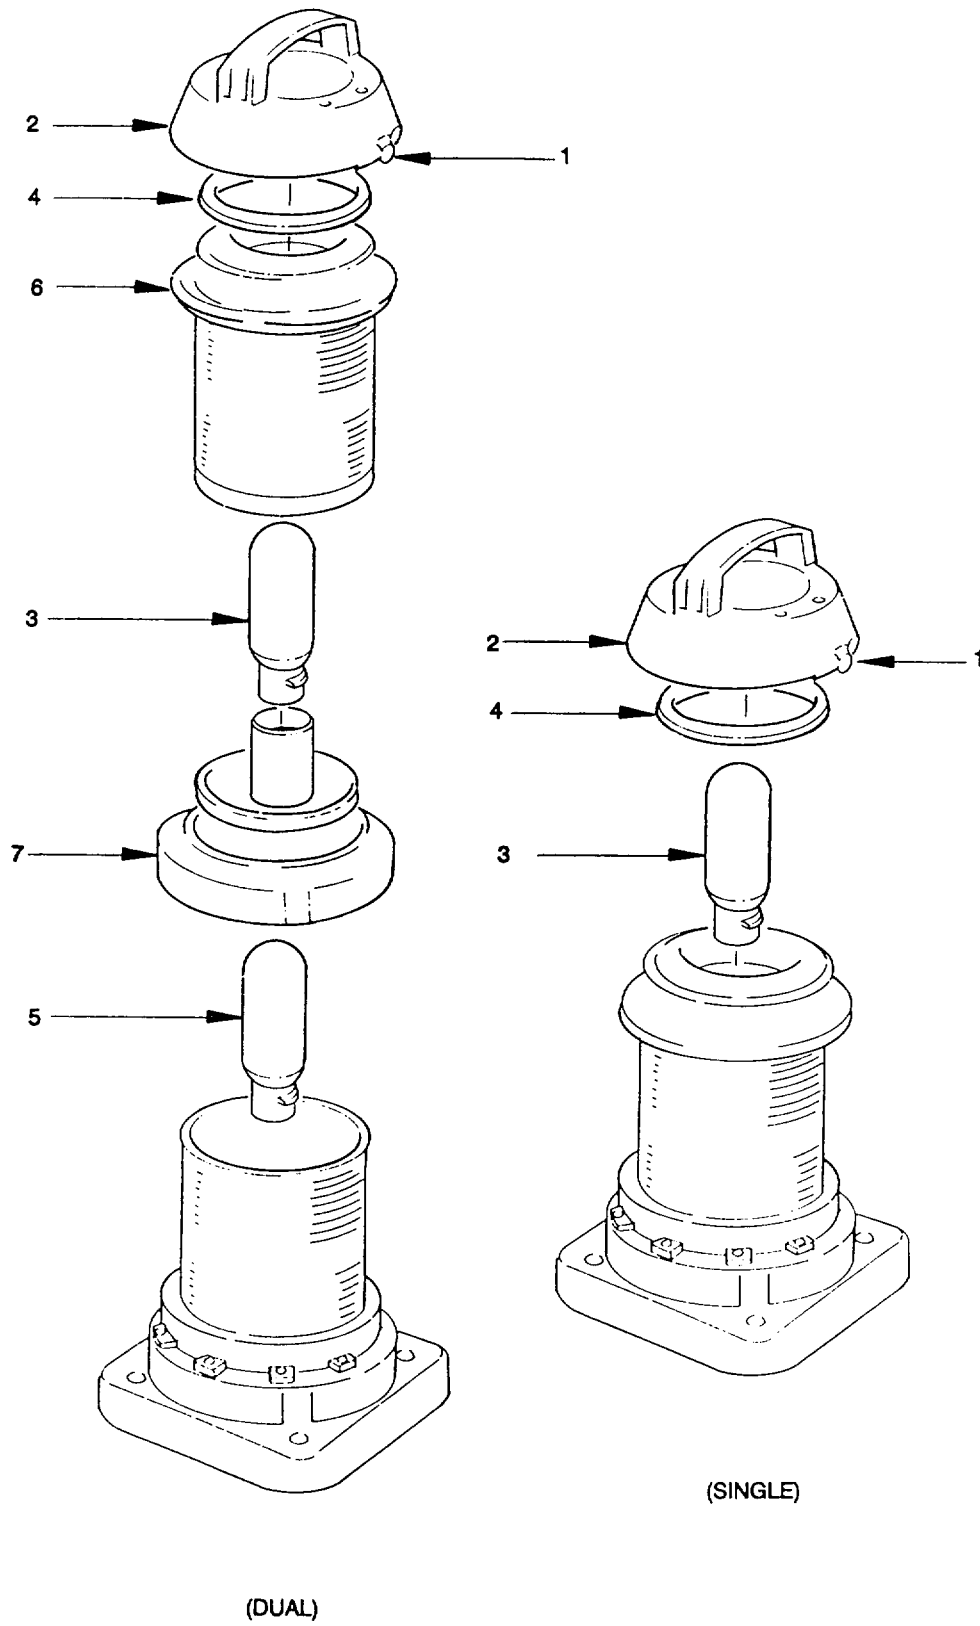
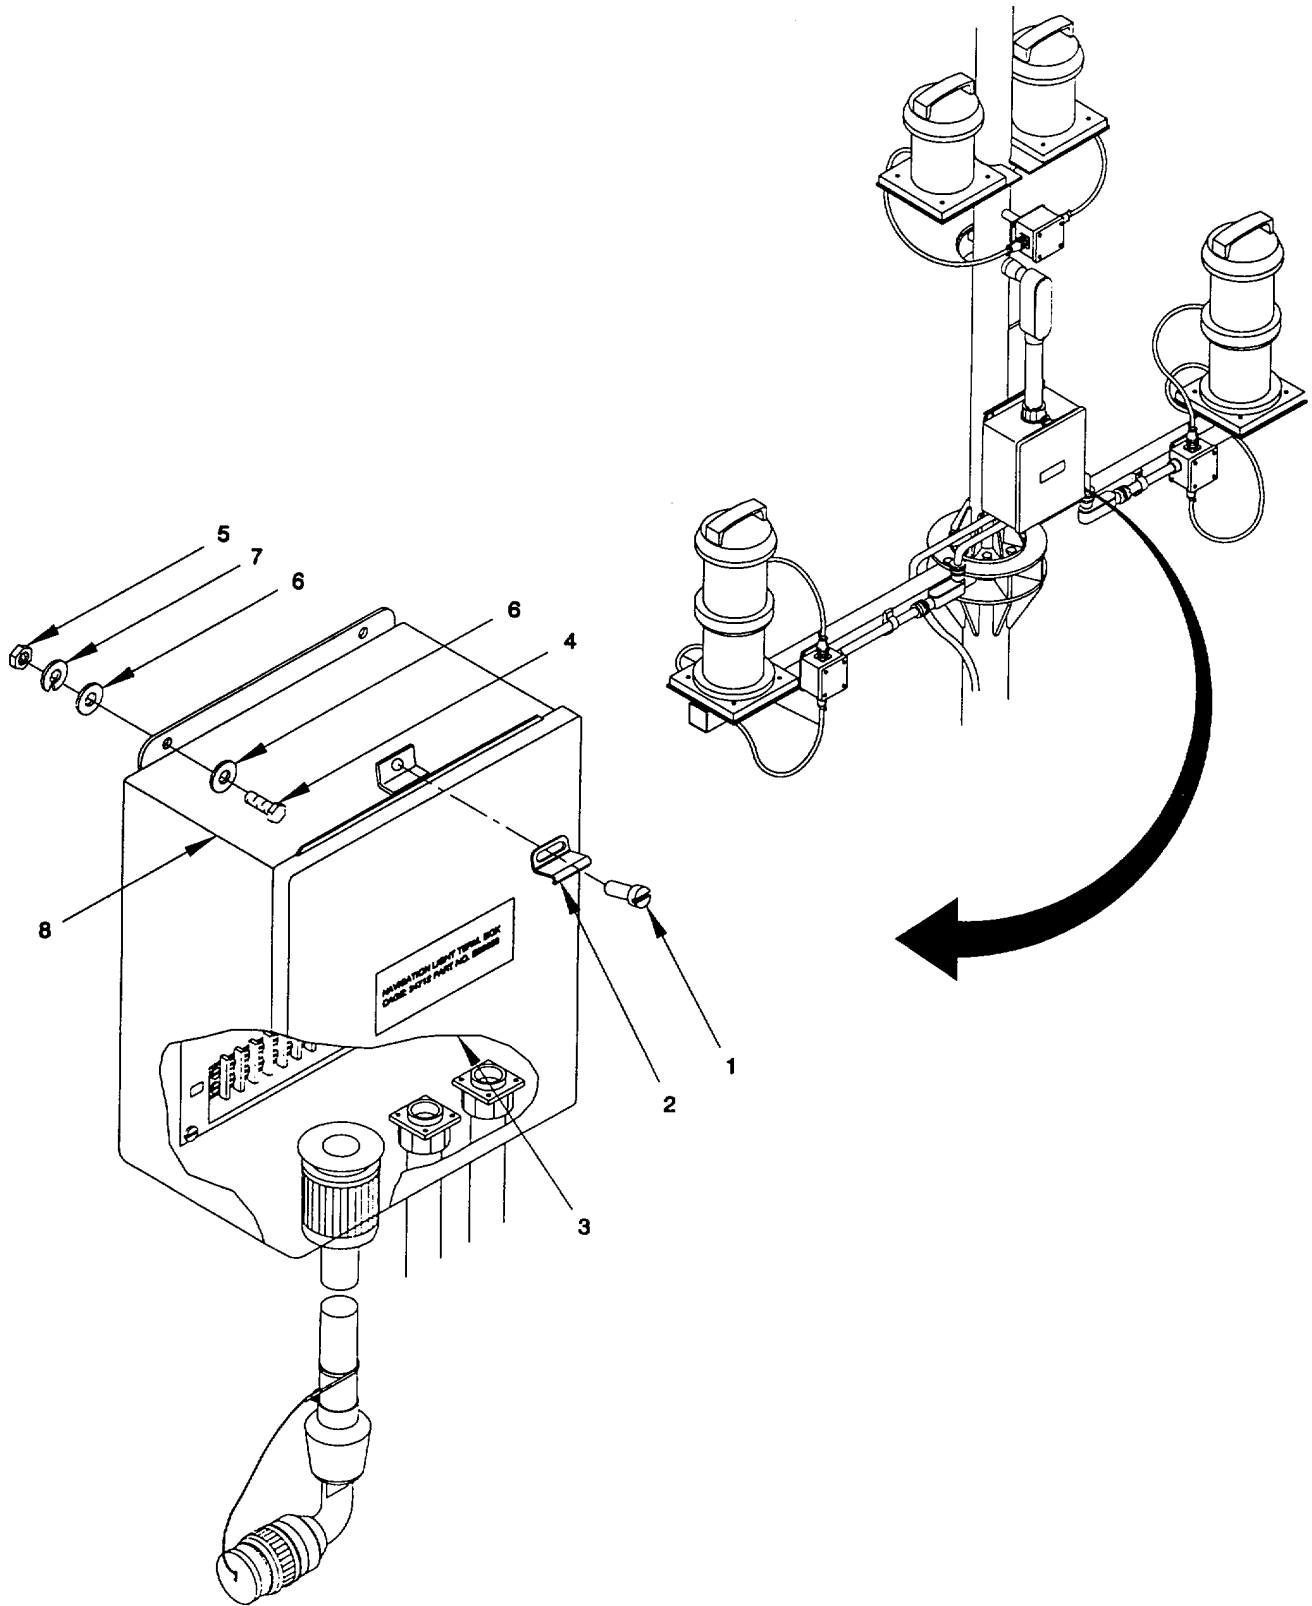

Figure 2-179. Navigation Lights, Repair.
Figure 2-180. Terminal Box, Main Mast Navigation Assembly, Remove/Install.
- (6) Single Lamp Fixtures. (figure 2-179)
- (a) Loosen safety knob screw (1) and turn cover (2) by its handle to the left and lift up the cover. The bulb (3) may then be changed from the top.
- (b) If damaged or worn, replace cover gasket (4).
- (7) Dual Lamp Fixtures. (figure 2-179)
- (c) To reach bottom lamp bulb (5), remove lens (6) and mounting plate (7).
- (8) Inspect navigation light terminal box (2, figure 2-180) for moisture, corrosion, evidence of overheating. Wipe out, dry, and resolder or reconnect electrical leads as necessary.
- a. *Remove.* (figure 2-180)
- (1) Remove four screws (1) and four clamps (2) securing cover (3) to enclosure (8). Swing cover (3) open.
- (2) Disconnect and tag electrical wiring to terminal box. Refer to Appendix G.
- (3) Remove four hex head capscrews (4), four hex nuts (5), eight flat washers (6) and four lock washers (7) securing enclosure (8). Remove junction box.
- b. *Install.* (figure 2-180)
- (1) Apply antiseize compound to capscrews (4) and screws (1).
- (2) Position new junction box and secure with four hex head capscrews (4), eight flat washers (6), four lock washers (7) and four hex nuts (5).
- (3) Reconnect electrical wiring, as tagged, to junction box. Refer to Appendix G.
- (4) Close cover (3) and secure with four clamps (2) and four screws (1).